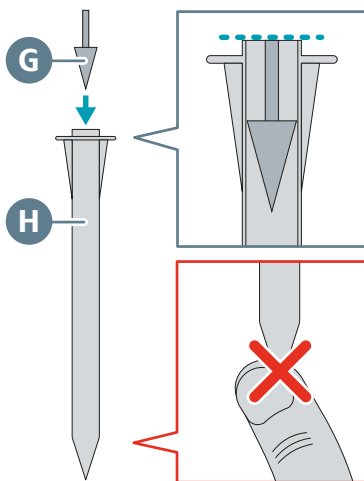

Figure 10. Insert plunger into disposable syringe
7. Carefully insert a plunger (G) into a new disposable syringe (H) and push it down until flush with the upper edge of the syringe (*Figure 10*).